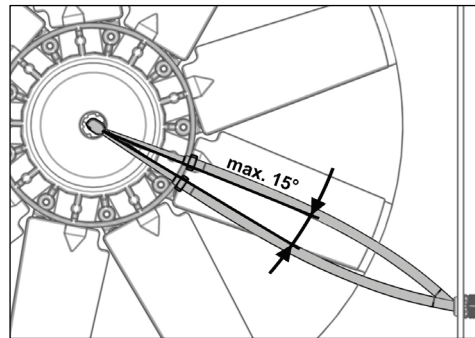

Fig. 31
- Check the tension and, if necessary, retension the pressure hose (see Fig. 31).